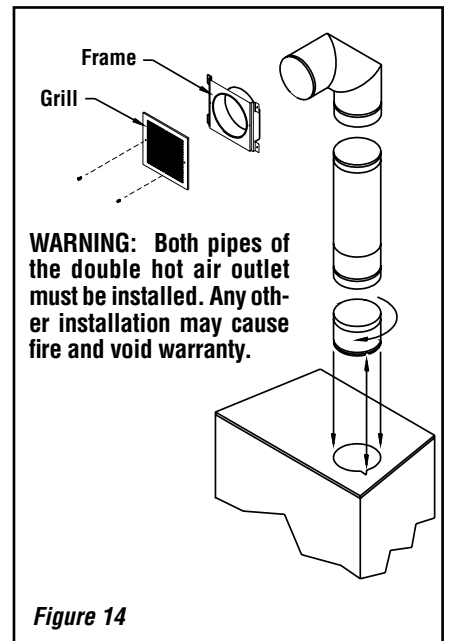

Figure 14
The gravity kit is designed for double hot air outlets and includes: (See **Figure 14**).
1. Remove the plates closing up the 8" dia. holes on top of the fireplace. Then, cut the insulation in order to obtain two 8" dia. openings. Fix the adaptors on the fireplace openings by turning clockwise (**Figures 14 and 15**).